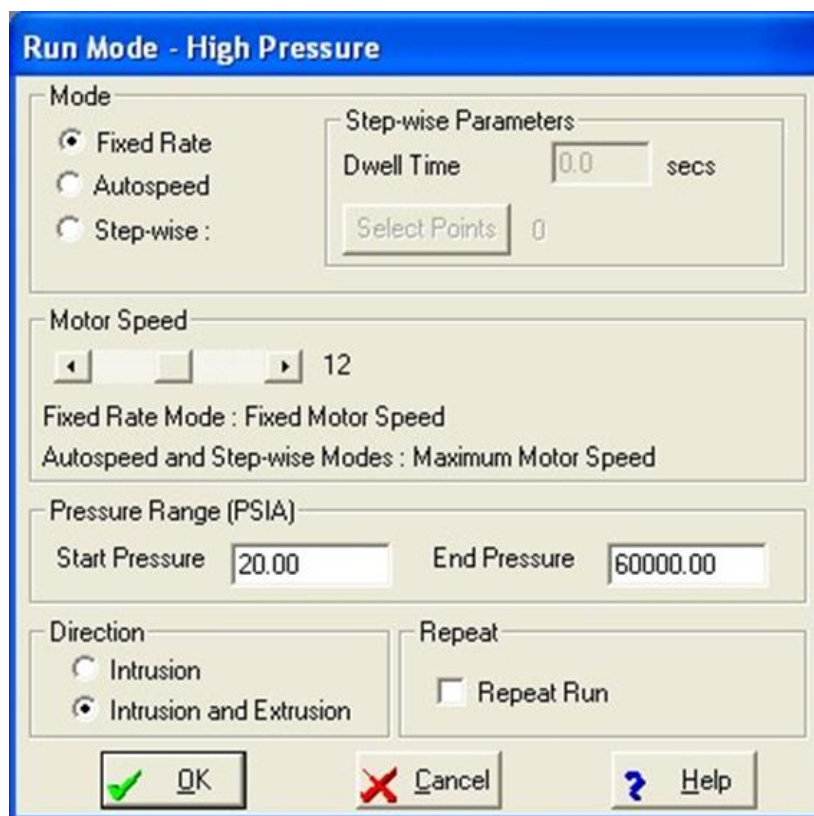

Figure 29. High pressure run mode dialog box
- **Fixed Rate**, one of the run modes for high pressure analysis as shown in Figure 29, drives the generator motor at constant rate for the entire selected pressure range. This is controlled by the **Motor Speed** slide bar (1= slowest; 25 = fastest, “6” takes about 20 min for blank runs and runs where a blank run is applied).